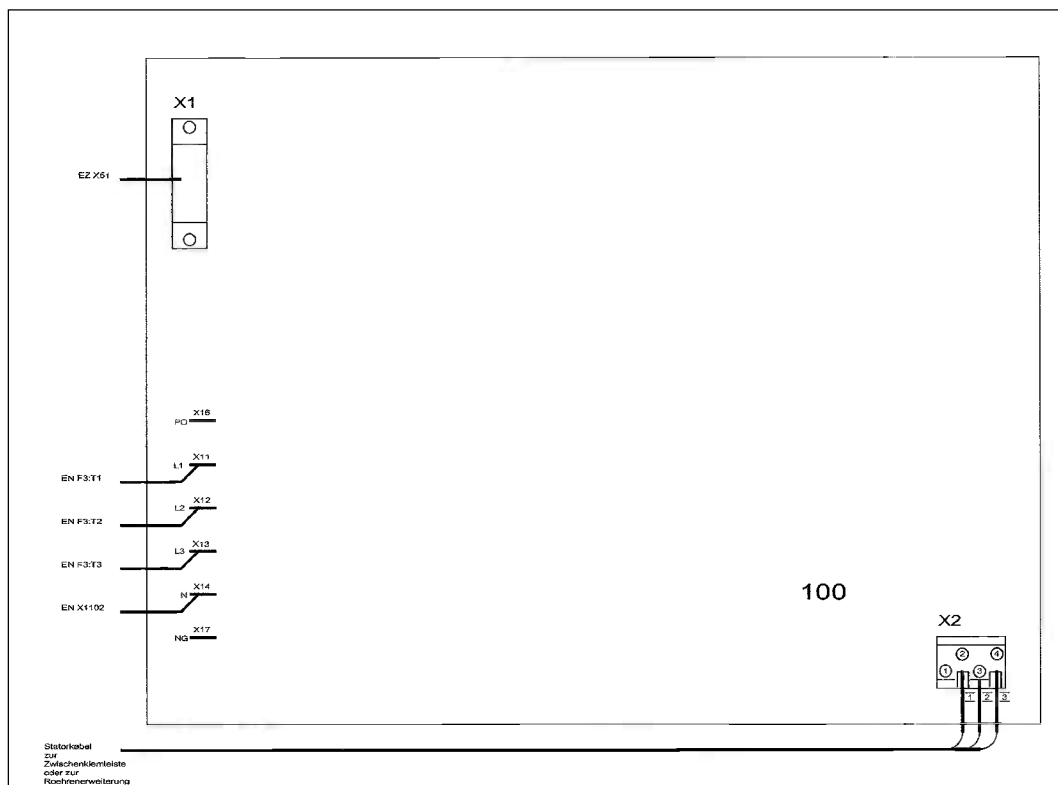

Figure 1
- Connect all wires and cables according figure 1.